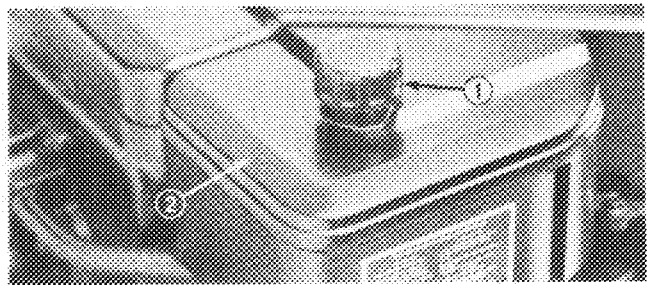

Figure 14
1. Remove retaining knob and lift off air cleaner cover (Fig. 14).